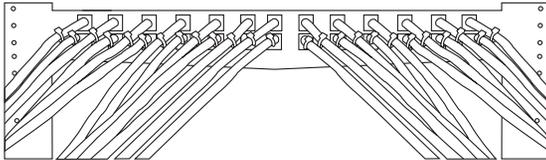

Figure 6. Completed patch panel installation.
7. Figure 6 shows a completed installation.